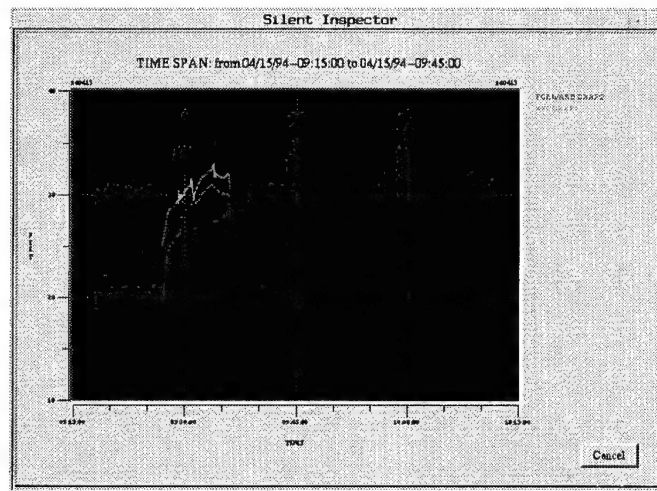

Figure 52. **Time History Plot** screen
- Click on **OK** to create and view plot (Figure 52).